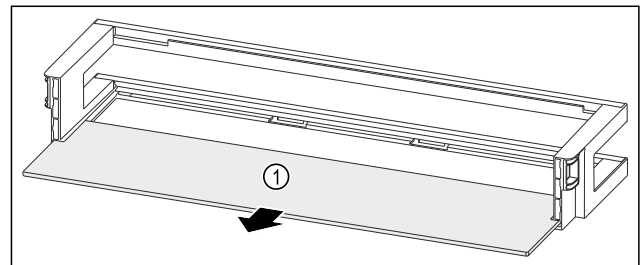

Fig. 130 Door racks with shelf
- ▶ Remove the shelf Fig. 130 (1).